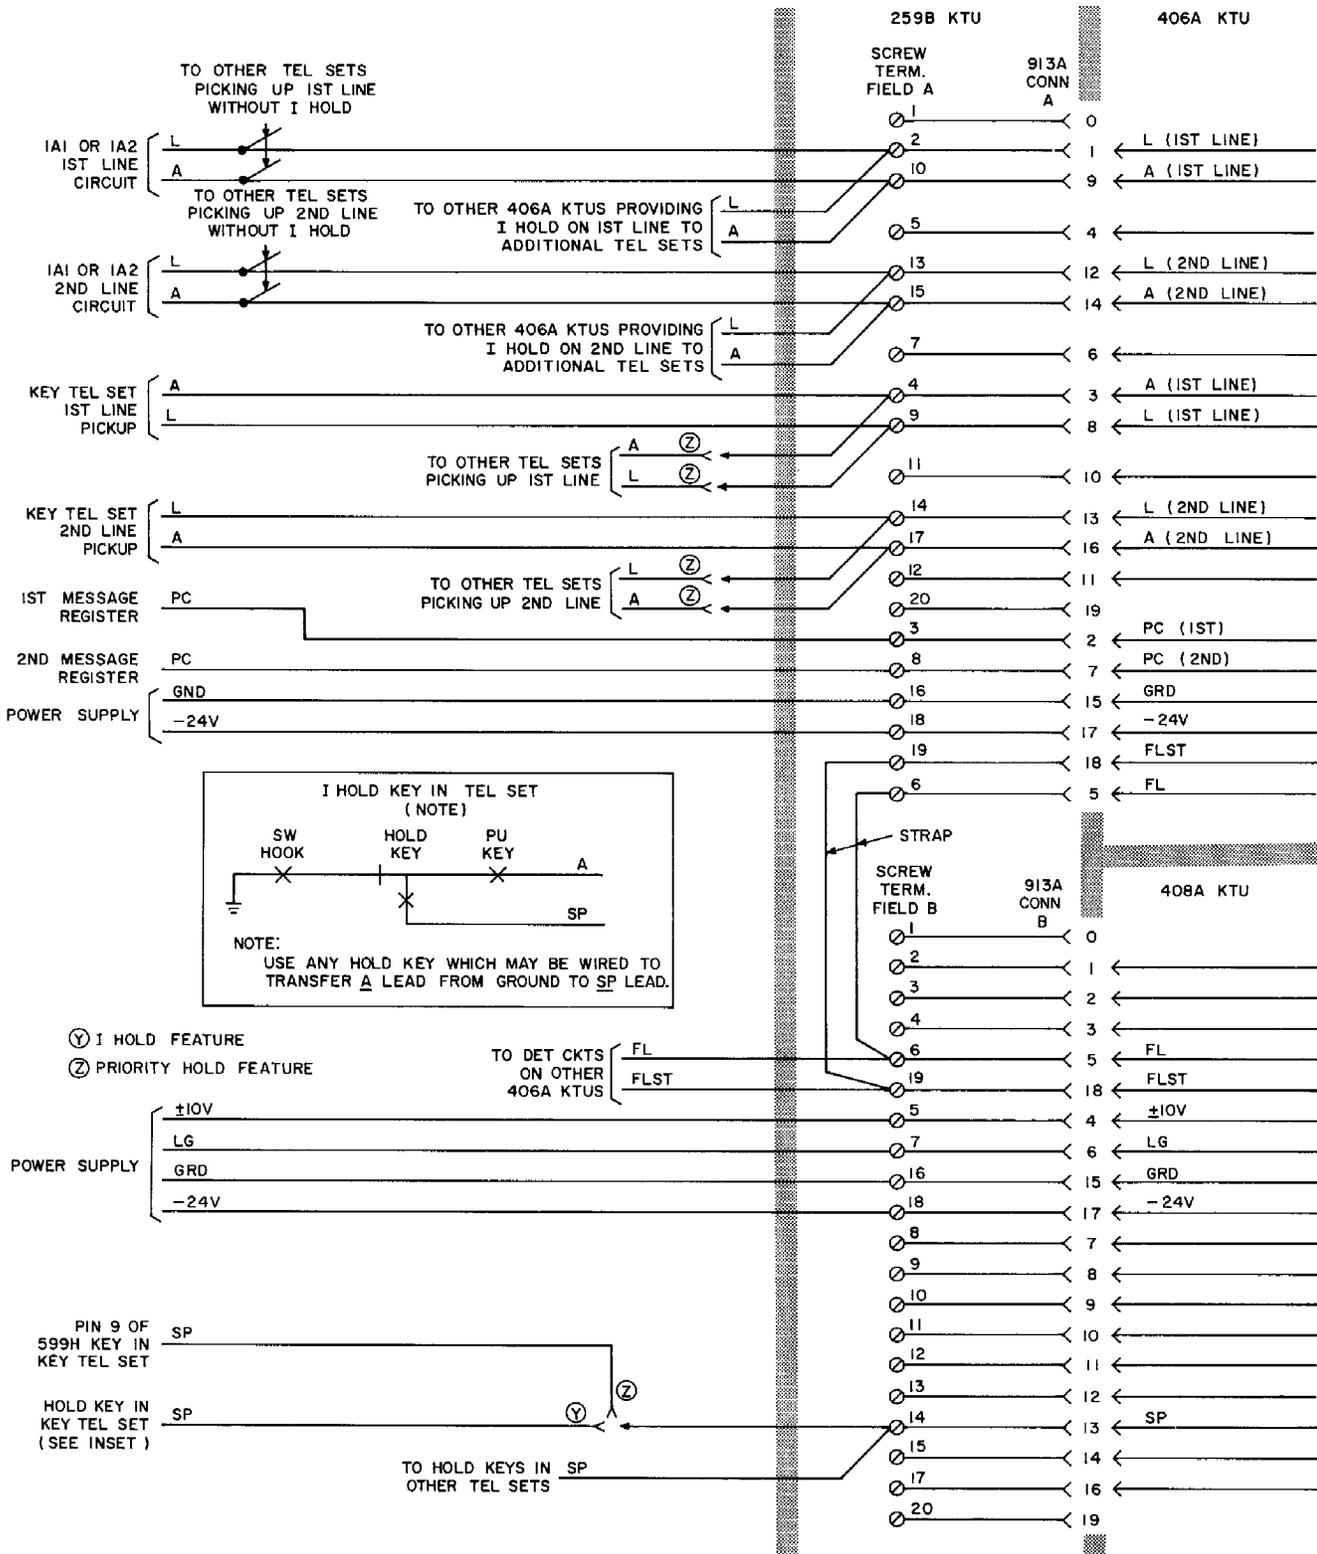

Fig. 3—Typical Connections for 406A and 408A KTUs Using a 259B KTU Adapter
4.01 Connect the 406A and 408A KTUs as shown in Fig. 3.
4.02 When the I hold feature is used, the hold key wiring in each equipped telephone set must be modified. Change the wiring so that when the hold key is operated, the A lead is opened to ground and closed to the -24 volts provided on the SP lead (Fig. 3).